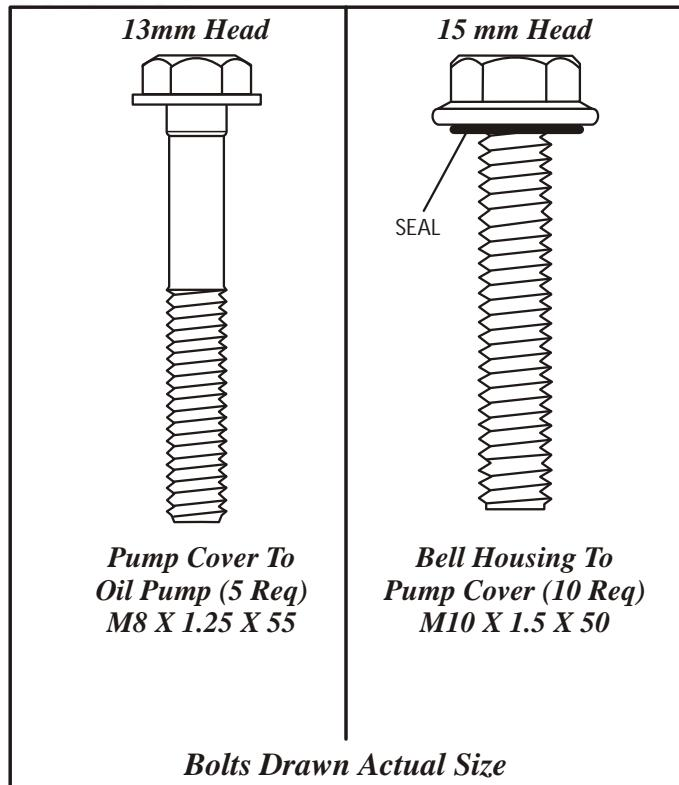

Figure 95
25. Install the 5 required pump cover to oil pump bolts, size identified in Figure 95 and location is identified in Figure 93, and torque the bolts to 27 Nm (20 ft.lb.).
27. Install the 10 required bell housing to pump cover bolts, size identified in Figure 95 and location is identified in Figure 96, and torque the bolts to 43 Nm (32 ft.lb.). **Note: Notice in Figure 95 that these 10 bolts have a required seal on the bolt. Ensure that new seals are installed.**